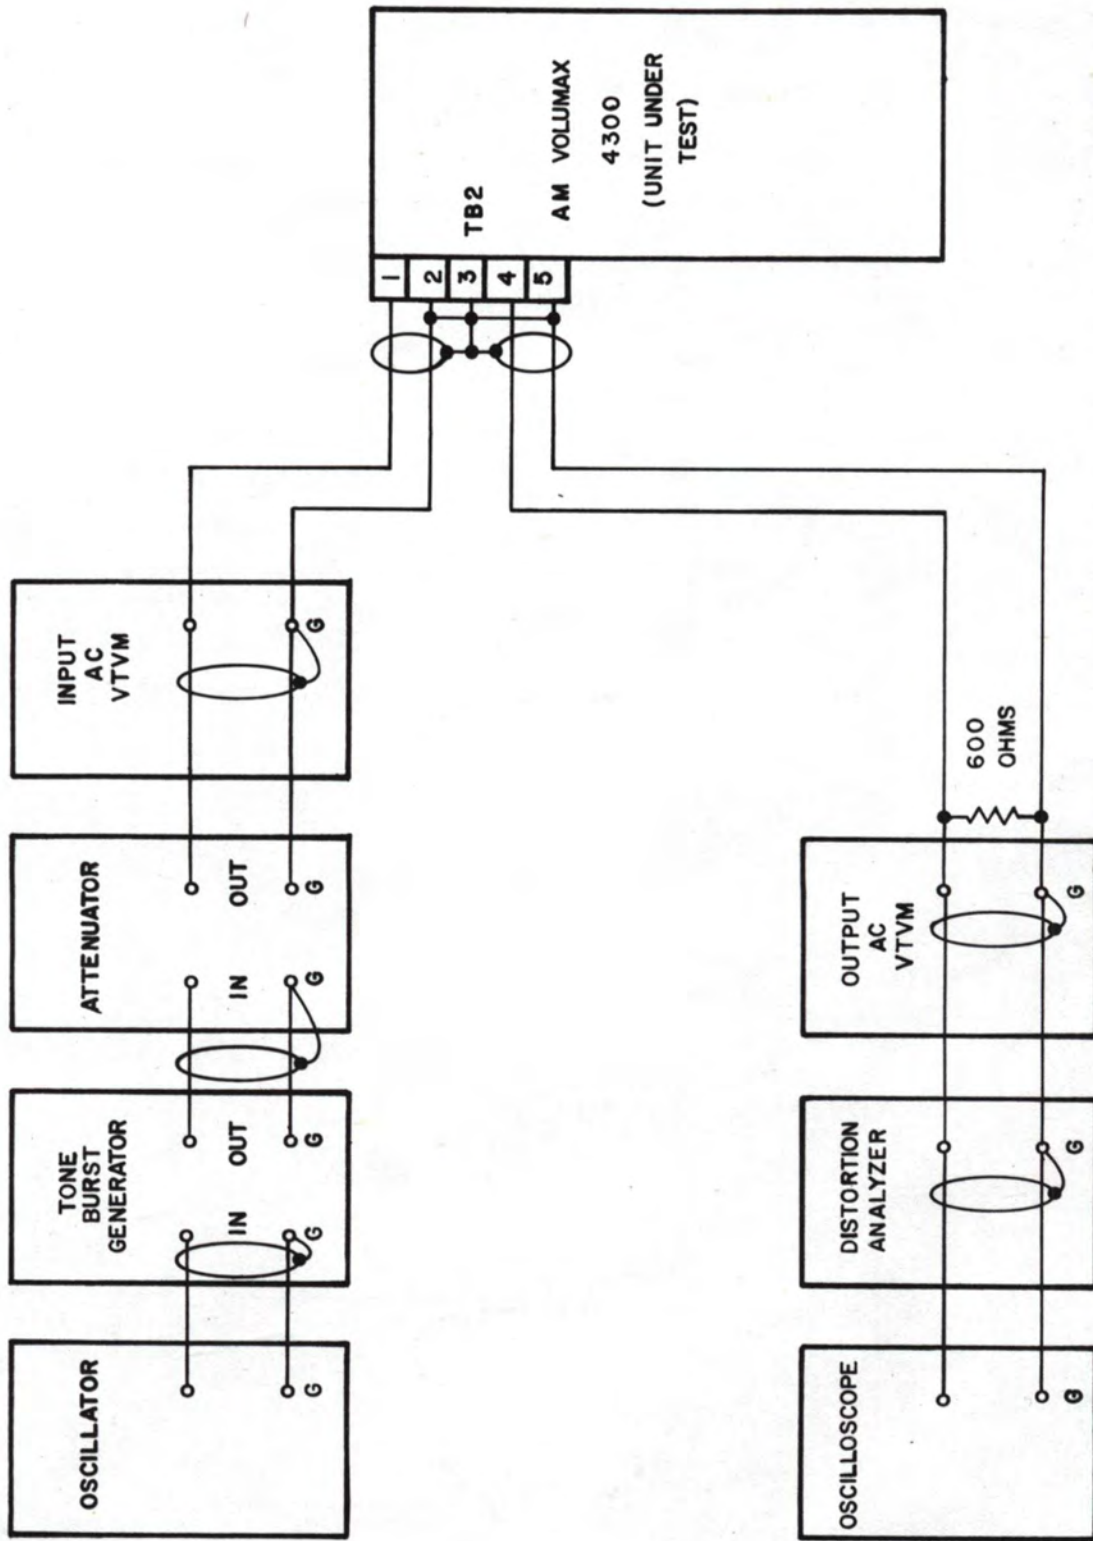

Figure 5-2. Factory Test Setup
The following is a simplified version of the CBS Laboratories production alignment procedure, and can be used to bring the Volumax characteristics back within specifications after long-term aging or component changes. Under normal circumstances, it should seldom be necessary to realign unless component changes are made. Figure 5-2 shows the factory test setup. Similar versions of this setup will usually be satisfactory.
The remainder of this procedure may be helpful if the tone burst generator (figure 5-2) is available and is connected in the test setup.
(1) Re-connect the Volumax unit in the test configuration shown in figure 5-2. Set the PHASE switch in NORMAL position. The tone burst generator (if used) should be set for continuous output.
(2) Adjust the input signal level as required for a GAIN REDUCTION meter reading at the red-green junction.
(3) Check that when the OUTPUT MAX. dbm switch is turned from the 22 to the 6 position the output level drops 16 ± 1 dB. The OUTPUT MAX. dbm control S5 is probably defective if any other drop, or no drop, is obtained.
(4) Verify that the OUTPUT LEVEL control varies the output level over a 20 ± 3 dB range. The OUTPUT LEVEL attenuator R160 is probably defective if this result is not obtained.